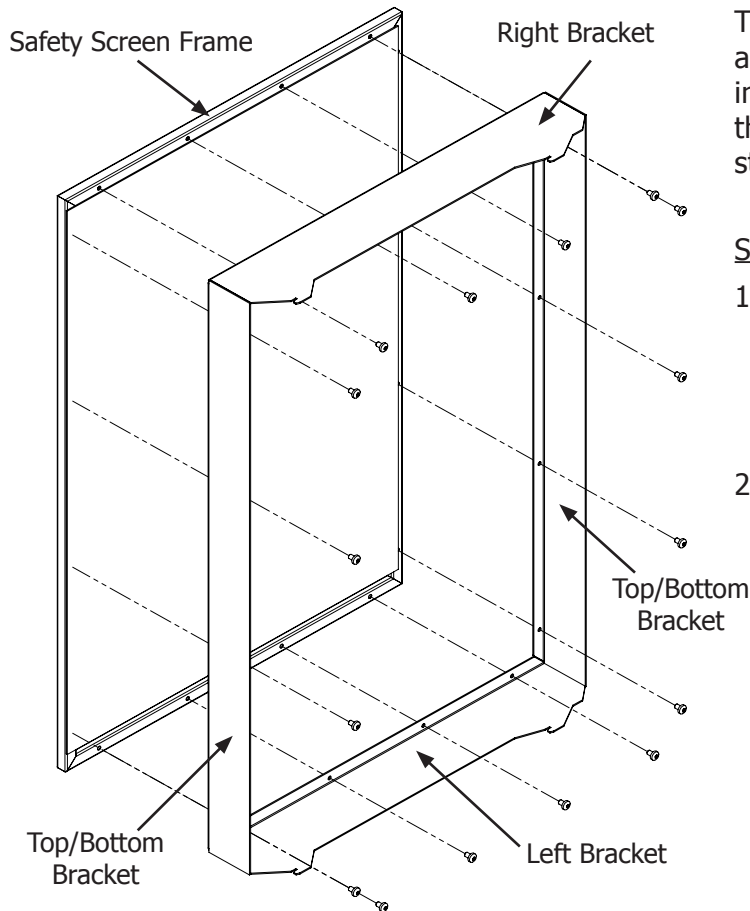

Figure 54: Installing Safety Screen Mounts.
1. Attach the left, right, top/bottom brackets onto the safety screen using a T20 screwdriver and the supplied sixteen (16) #8 T20 screws (see Figure 54). Do not over-tighten the screws, doing so could cause them to strip out of the screen frame.